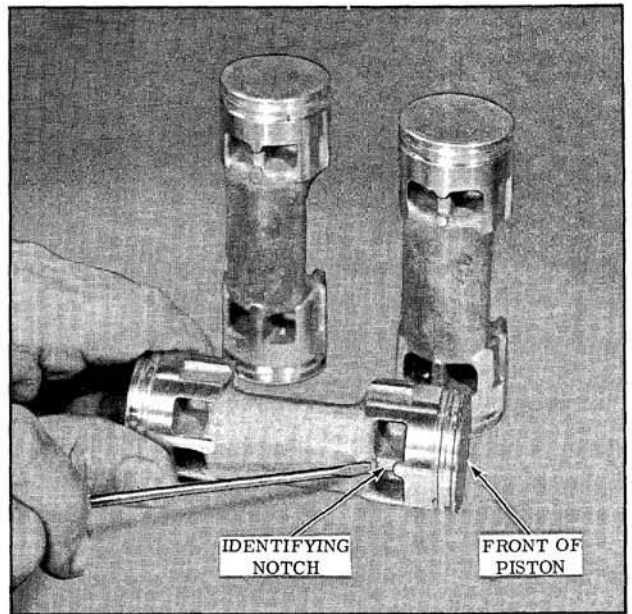

Fig. 14-129 Piston Identification
6. Place a zero shoe over each ball in the front end of the piston. The front end of the piston has an identifying notch in the casting web. (Fig. 14-129)